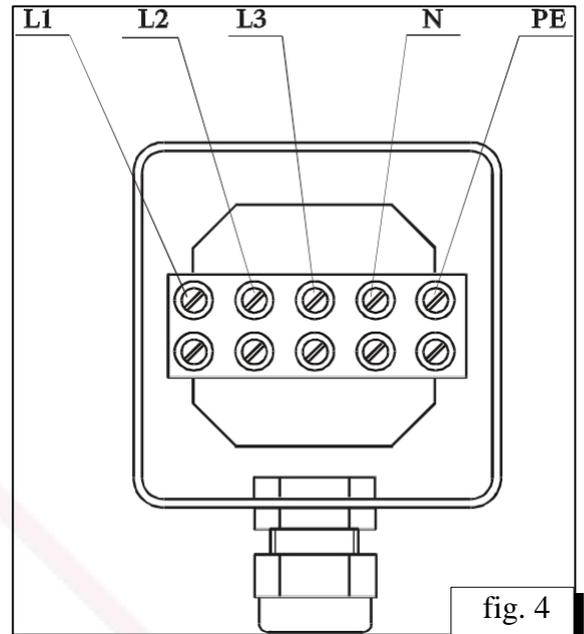

fig. 4
- ⊗ Connect the supply cable to the respective terminals of the entry box (L1,L2,L3,N,PE)/fig. 4./